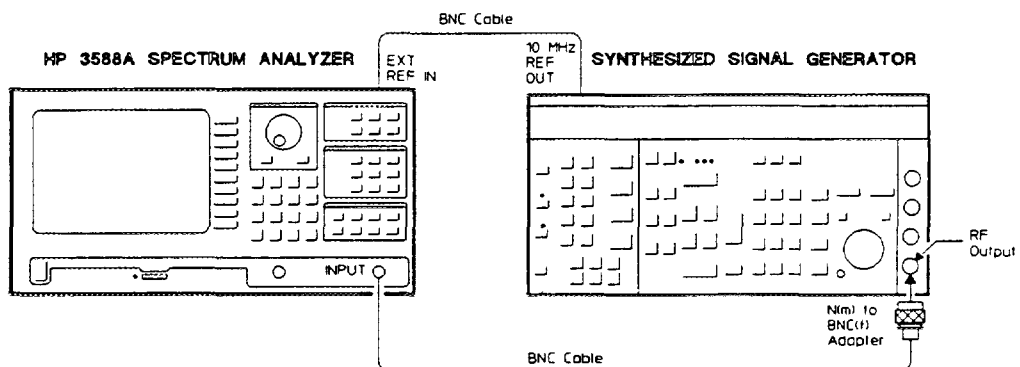

Figure 3-2. Spurious Responses Setup
- BNC Cables (2)
1. Connect the test equipment as shown in figure 3-2.